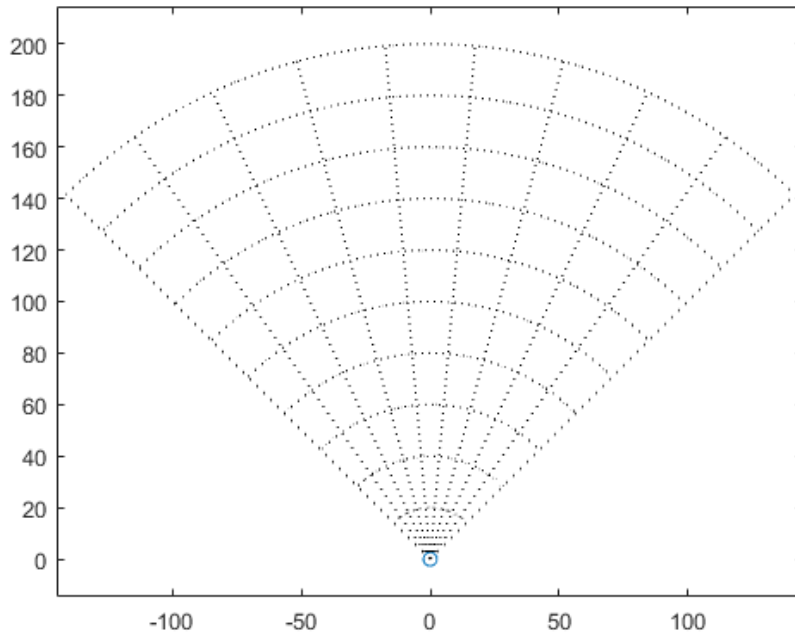

Figure 2: Grid for drawing the beampattern
- As can be seen in the datasheet for the sensor, it detects objects within a certain angle, which distorts the image. Determine this angle by inserting an object that can be thought of as a point scatterer (or rather line scatterer, we only need it to be thin in the plane of the scan). The angular width of this object on the radar screen will correspond to the full beamwidth of the sensor. Try your measurements at different distances and draw the measurements in a grid like produced by the matlab script (cf. Fig. 2).